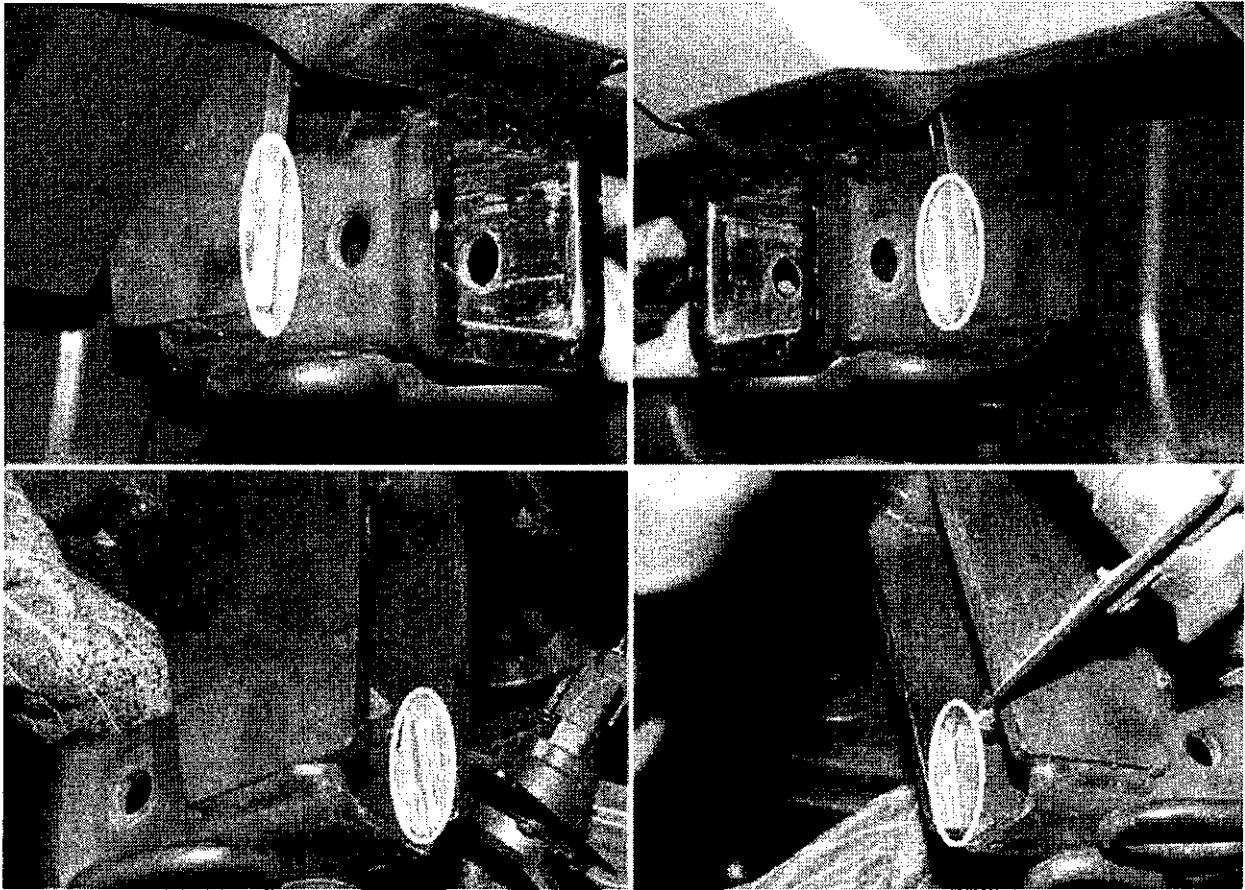

Figure 3
4. Thoroughly grind 4 weld point surfaces (arrows, Figure 2) and welder's ground point (A) down to bare metal using a die grinder with a burr bit (refer also to Figure 3 for view of weld points ground down).